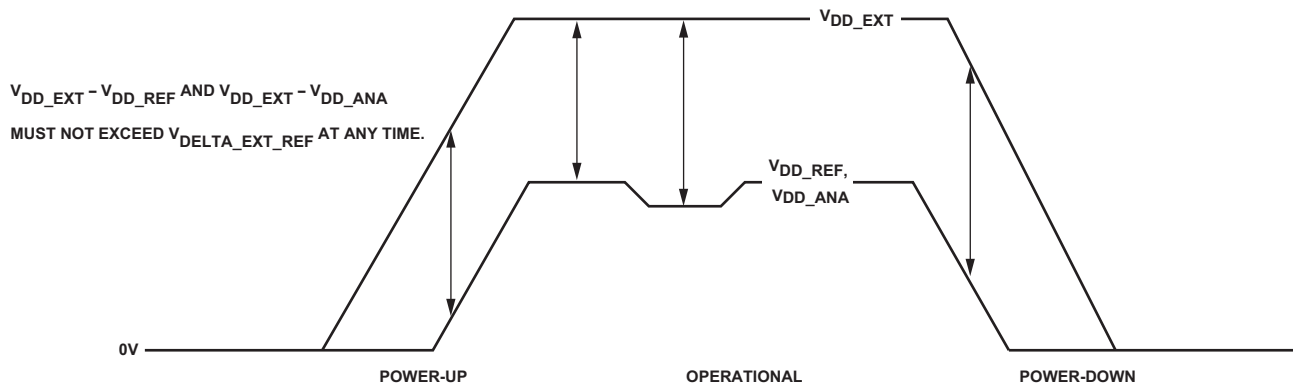

Figure 9. Power-Up and Power-Down Voltage Delta Requirement
1. The  $V_{\Delta\_EXT\_REF}$  specification must be met at all times, including during power-up reset and when powering down the device (Figure 9).